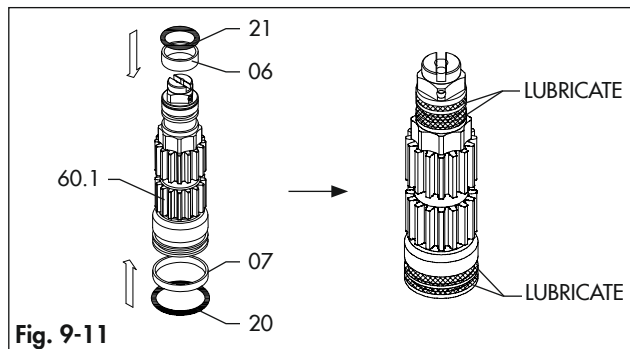
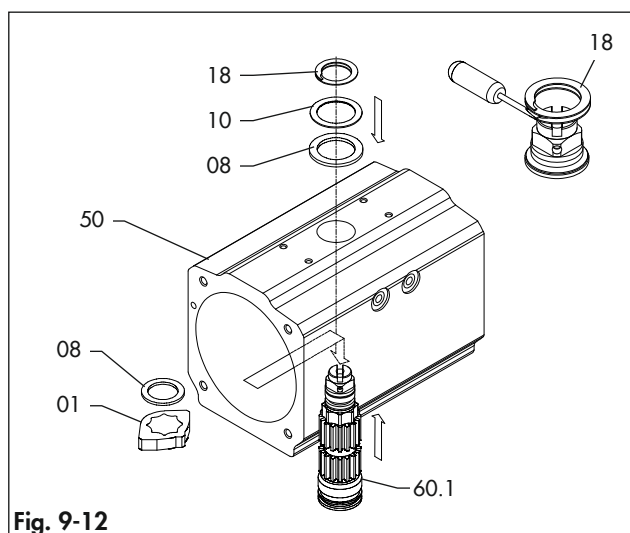
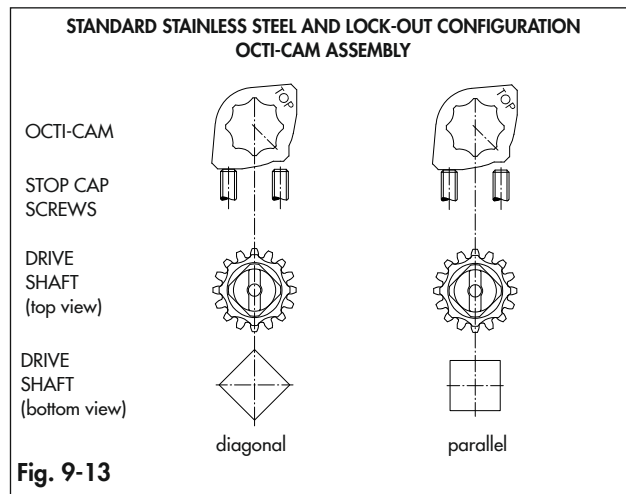

Fig. 9-11
Fig. 9-12
Fig. 9-13
Refer to Fig. 9-1, Fig. 9-11, Fig. 9-12 and Fig. 9-13.
- Place the drive shaft top bearing (06) and bottom bearing (07).
- Lubricate and place the drive shaft top o-ring (21) and bottom o-ring (20).
- Lubricate the external surface of the bearings and o-rings placed onto the drive shaft (60.1) as per the Fig. 9-11.
- Insert partially the drive shaft (60.1) into the body (50). (Fig. 9-12)
- Place the octi-cam (01) through the body (50) onto the drive shaft (60.1). Refer to the Fig. 9-13 for the correct placement of the octi-cam (01).
- Place the internal thrust bearing (08).
- Insert completely the drive shaft (60.1) into the body (50).
- Place external thrust bearing (08) and thrust washer (10).